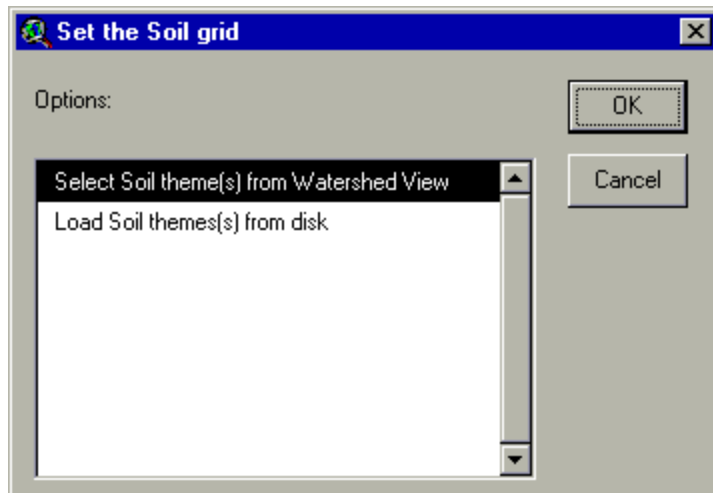

Figure 6.26
1. Select the soil data layer by clicking the  button next to the text box labeled **Soil Grid**. A dialog box labeled *Set the Soil Grid* will appear (Figure 6.26).